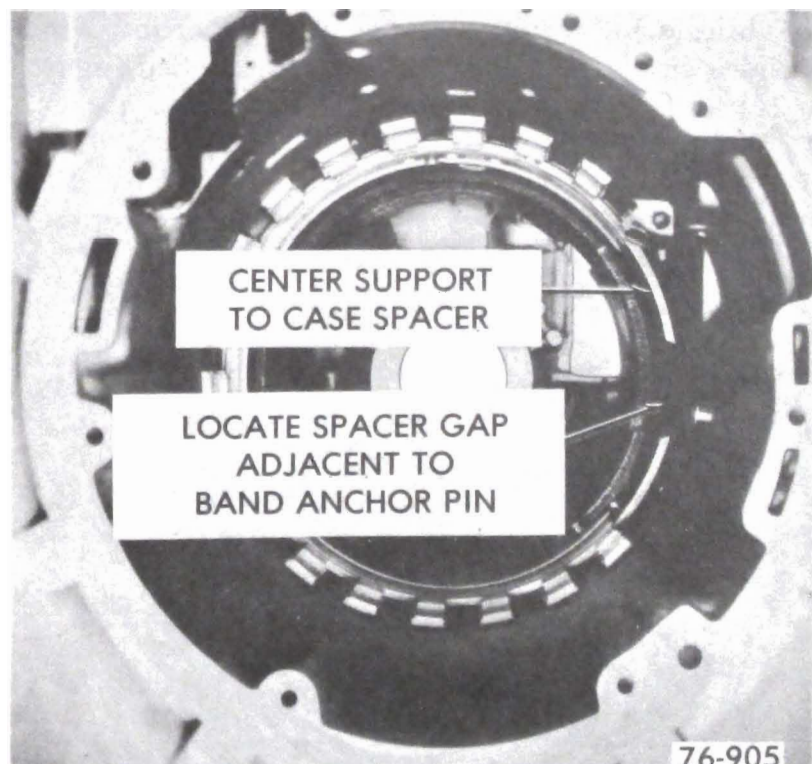

Figure 76-246
If the case assembly requires replacement, make sure the center support-to-case spacer is removed from the old case and reinstalled in the new case. See Figure 76-246.
6. Install the support to case spacer against the shoulder at the bottom of case splines and the gap located adjacent to the band anchor pin. See Figure 76-246.